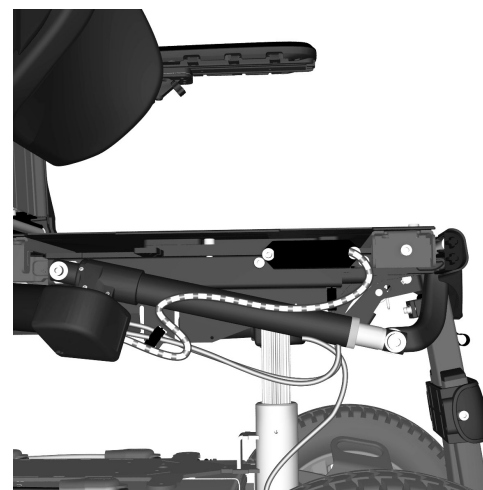

Figure 131. Actuator cabling, applies to both LINAK and REAC.
8. Connect the actuator connector to the same position as noted in step 7. into the junction box on the right-hand side of the seat. Fit the connector by pushing it straight in at any point. See fig. 131.